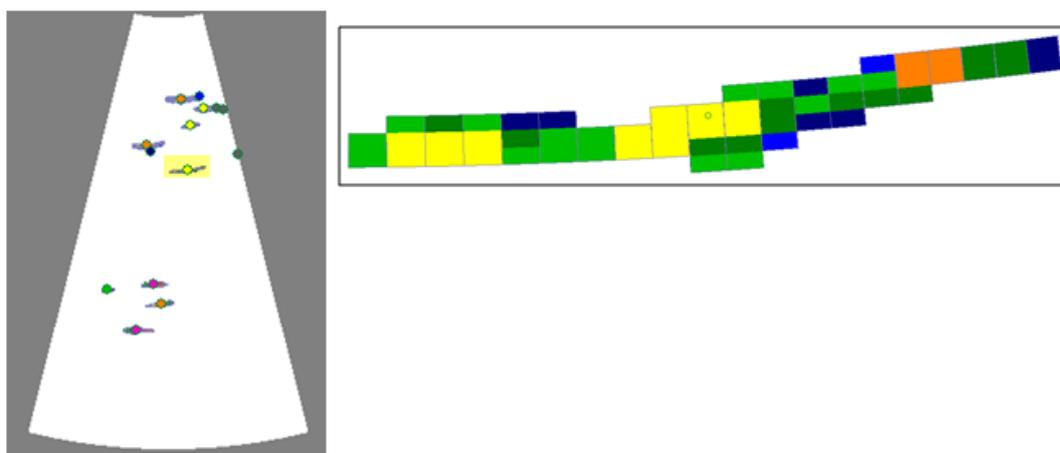

Figure 7. Close up of the highlighted multibeam target in ping 34.
- On the Multibeam target detection echogram zoom in on a target (refer to Topic 2). The color scheme for the input data under targets is controlled by the input operand Beam median filter 3x3. To match the inset for Figure 7 you may need to adjust the **Echogram color** settings of the **Beam median filter** variable. Consult the settings from Topic 4 for specific values. Adjust F11/F12 on the Beam median filter 3x3 echogram, while viewing the target.